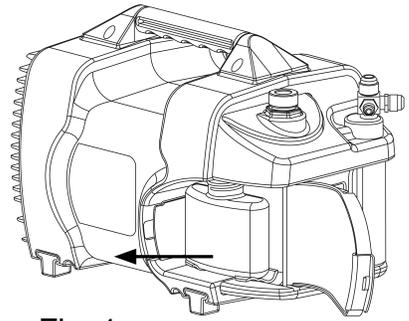

Fig. 1
3. While holding the lower part of TEZOM, pull the cartridge out of the side of the vacuum pump. (Fig. 1)